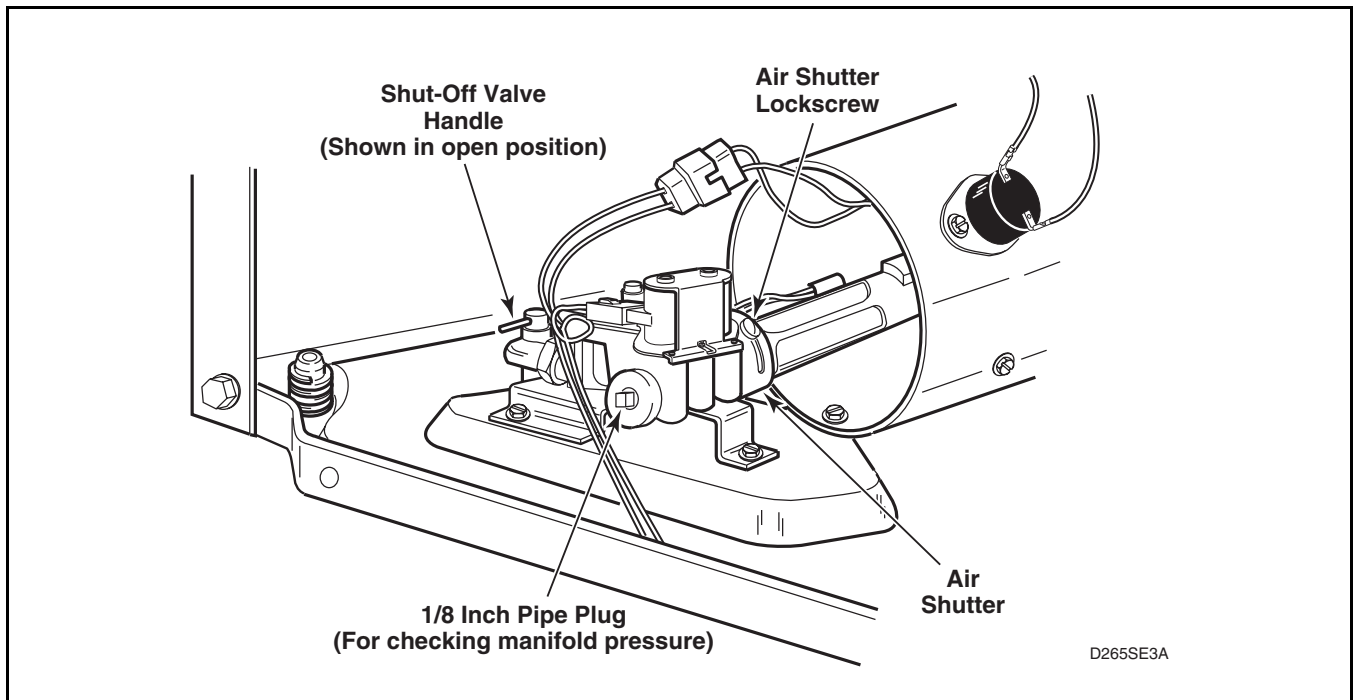

Figure 42
- e. Allow the dryer to operate for approximately five minutes, then loosen the air shutter lockscrew. Refer to *Figure 42*.
- g. After proper flame is obtained, tighten air shutter lockscrew firmly. Refer to *Figure 42*.